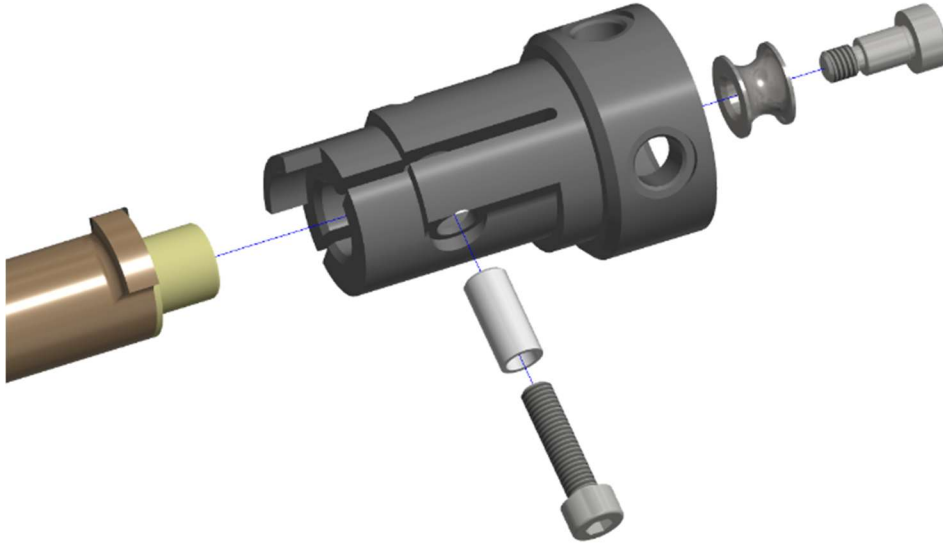

Figure 11-22. Remove the Distal Lower Arm Bolt Assembly (474-6704) from the Distal Lower Arm Tube (474-6701)
11.2.18 Remove the Distal Lower Arm Bolt Assembly (474-6704) from the Distal Lower Arm Tube (474-6701-1,2) (Figure 11-22). Remove the M6 X 8 LG. SHSS SS from the center of the Distal Lower Arm Tube (Figure 11-22).